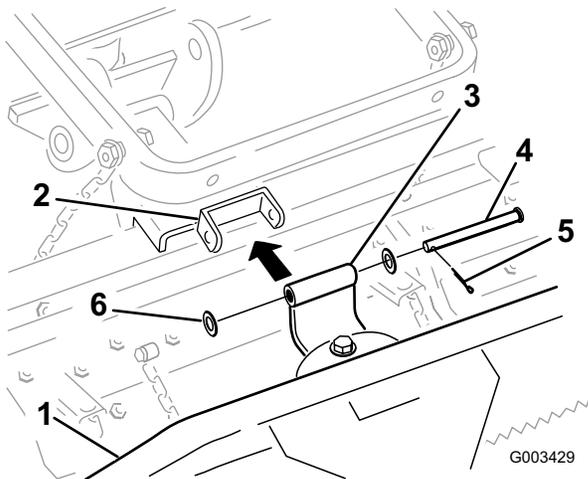

Figure 4
2. Connect the curved pivot bracket to the tooth rake as illustrated in Figure 4 with a clevis pin (1/2 x 4-1/2 inches), 2 washers (0.531 x 1.063), and a cotter pin.